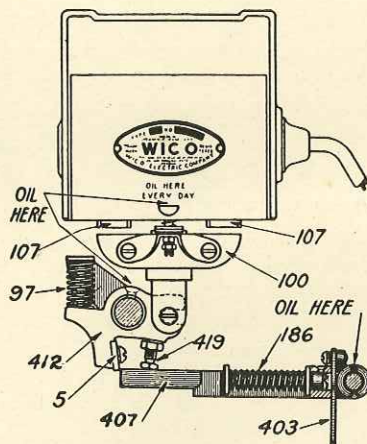

Figure 16
The numbers on Figure 16 will be used in the instructions on adjusting Wico Magnetos. Figure 16 is cut of type E. K. showing position of the trip finger No. 407 and armature No. 100 after the contact between armature No. 100 and the face of the cores No. 107 has been broken, also at the point where trip finger No. 407 trips off of rocker arm No. 412 causing armature No. 100 to return to its original position.
(See Figure 16)
Trip the armature (100) from its contact with the cores (107) and insert a strip of metal 7-64" thick between the armature and the face of the cores. Move the push rod slowly until the latch of the trip finger reaches the rocker arm. The edge of the latch should then just engage the edge of the lip of the rocker arm, and the adjusting screw (419) should be bearing on the top side of the latch, (see Figure 16) so that the least further movement of the push rod will cause the latch to slip off the edge of the rocker arm.
See that armature No. X-100 returns and makes a firm contact with cores No. 107 after being tripped off. Failure to do this indicates a weak end spring or broken return spring No. X-97 or friction of moving parts caused by lack of oil. Remove any dirt from armature or face of cores. Turn the flywheel over slowly and see that when armature No. 100 is tripped it snaps quickly away from the cores No. 107. Failure to do this indicates binding or friction or a broken drive spring No. X-186, (see figure 16).